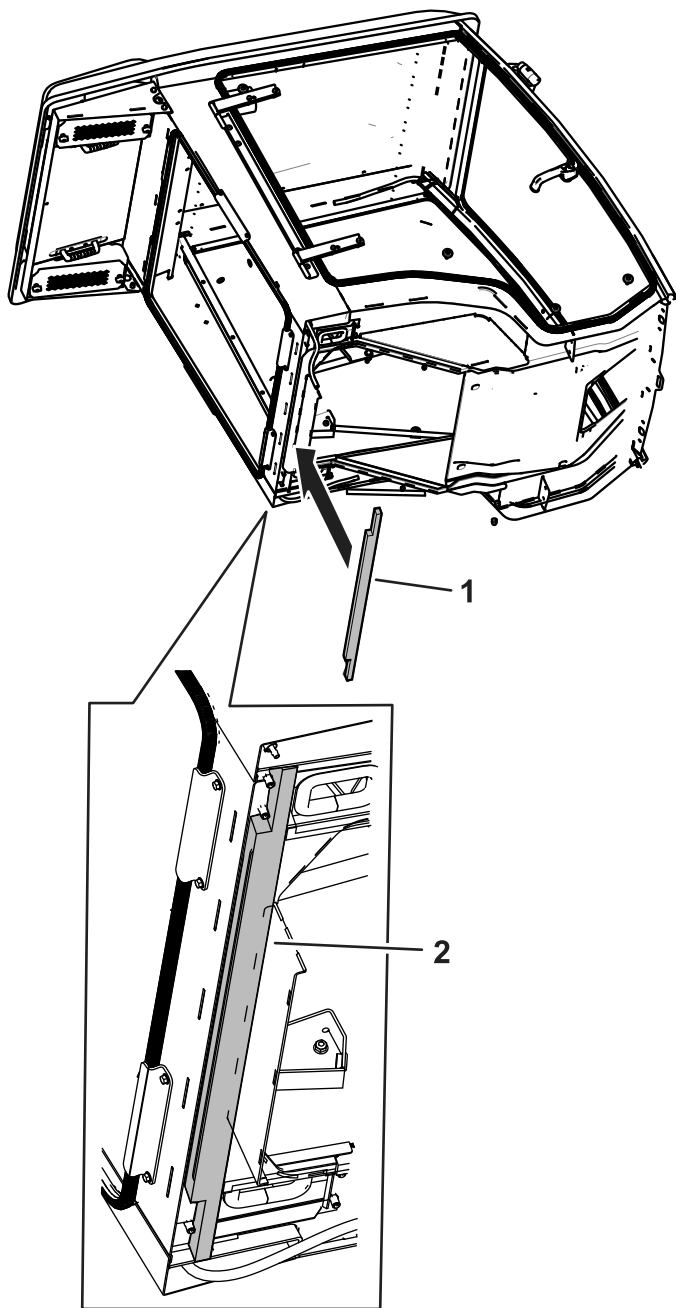

Figure 13
5. Install the foam seal on the bottom of the cab as shown in Figure 13.